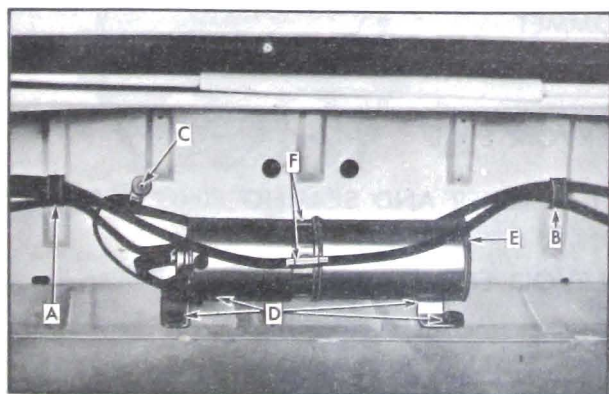

Figure 7-50—Hydro-Lectric Motor and Pump Assembly
The hydraulic unit which is used in the Convertible bodies, consists of a 12-volt reversible type motor, a rotor-type pump, two hydraulic lift cylinders and an upper and lower hydraulic hose assembly. Figure 7-50 shows the unit installed in the body directly behind rear seat back.
a. Check connection of motor ground wire to body metal. (See "C" IN Figure 7-50)
6. Remove clips "A" and "B", Figure 7-50, securing wire harness and hydraulic hose to rear seat back panel.
7. Disconnect motor leads from wire harness and ground attaching screw "C", Figure 7-50.
8. To facilitate removal apply a rubber lubricant to pump attaching grommets "D", Figure 7-50, then carefully disengage grommets from floor pan.
10. With a straight-bladed screw driver, vent reservoir by removing filler plug indicated at "E", Figure 7-50, then reinstall plug.
11. Disconnect hydraulic lines at "F", Figure 7-50, and cap open fittings to prevent leakage of fluid. Use a cloth to absorb any